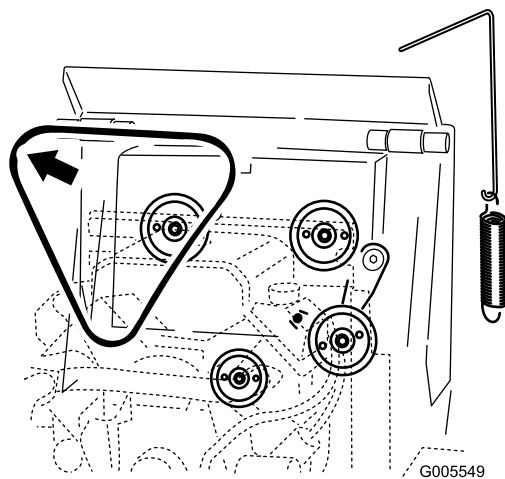

Figure 48
5. Remove the belt from the three pulleys (Figure 48).